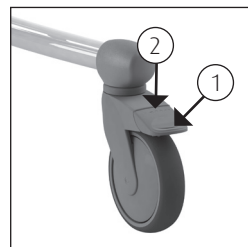

Figure 1 Swivel wheel.
- The brake can be applied on the Nemo by pushing the blue lip (1) on the wheel downwards (See figure 1).
- In order to take the Nemo off the brake, the same lip on the wheel must be moved upwards by tapping the upper side of the lip (2) (See figure 1).